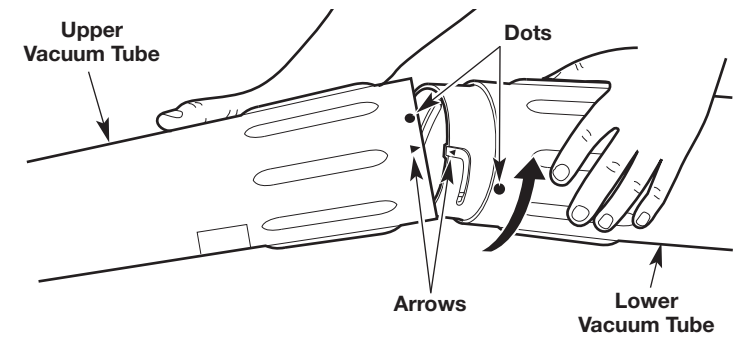

Fig. 7
2. Align the arrow on the lower vacuum tube with the arrow on the upper vacuum tube (Fig. 7).
3. Insert the lower vacuum tube into the upper vacuum tube (Fig. 7).
4. Twist the lower vacuum tube clockwise with both hands until it locks into place (Fig. 7).
NOTE: When properly assembled, the dot on the lower vacuum tube should align with the dot on the upper vacuum tube (Fig. 7).